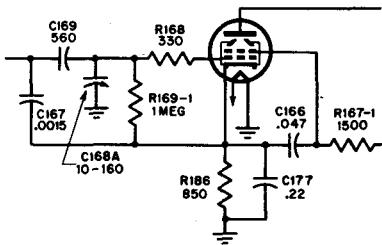

Fig. 11 — Arvin
**Increasing life of V12, 6AV5GT***(see Fig. 11).*